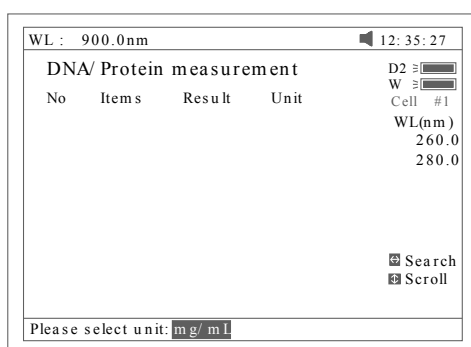

Fig 64
- Press **[F3]** to select the unit of concentration (Fig 64).